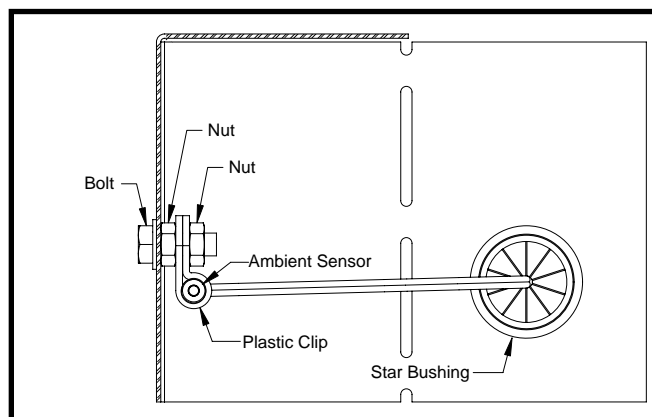

Figure 8. Ambient Sensor Mounting
2. Remove star bushing from 7/8" hole in corner panel of the unit. See Figure 8.